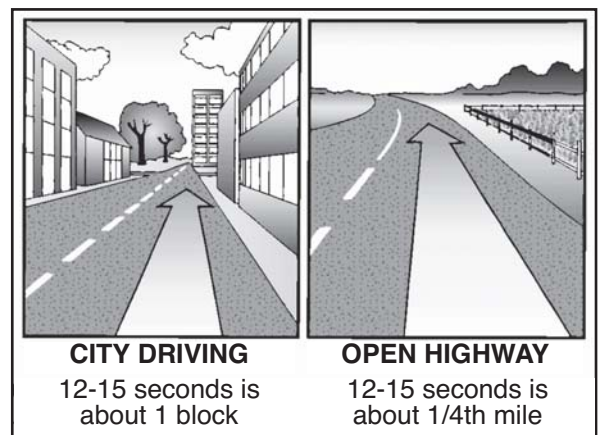

Figure 2.6
**How Far Ahead to Look** — Most good drivers look at least 12 to 15 seconds ahead. That means looking ahead the distance you will travel in 12 to 15 seconds. At lower speeds, that is about one block. At highway speeds it is about one-quarter of a mile. If you are not looking that far ahead, you may have to stop quickly or make quick lane changes. Looking 12 to 15 seconds ahead does not mean not paying attention to things that are closer. Good drivers shift their attention back and forth, near and far. Figure 2.6 illustrates how far to look ahead.